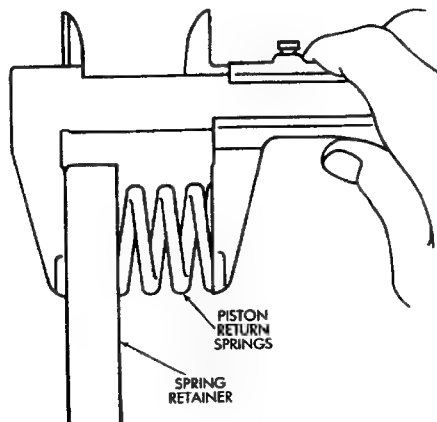

Fig. 9 Checking Piston Return Spring Length
- (12) Remove and discard clutch piston O-rings.
- (13) Measure clutch disc thickness. Minimum allowable thickness is 1.84 mm (.0724 in). Replace discs if below minimum thickness.
- (14) Measure free length of piston return springs with springs in retainer (Fig. 9). Length should be 21.32 mm (.839 in). Replace return springs if not within specification.